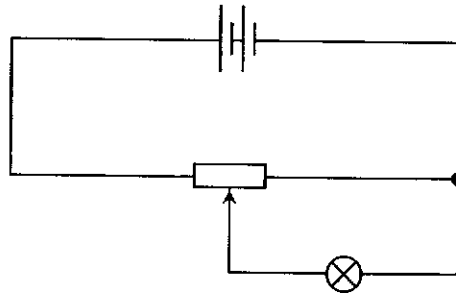
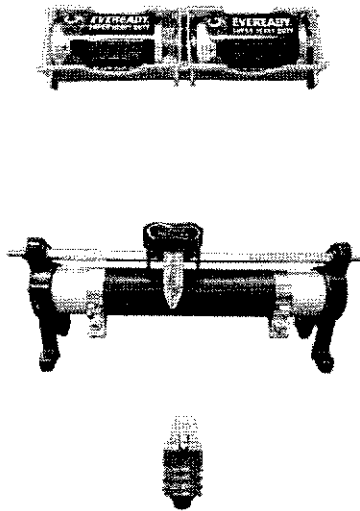

Fig. 2.2
Fig 2.3
- (d) Fig. 2.2 shows another circuit that may be used to vary voltage across the filament lamp.
Draw lines in Fig. 2.3 to show how the components can be connected to achieve the circuit shown in Fig. 2.2.